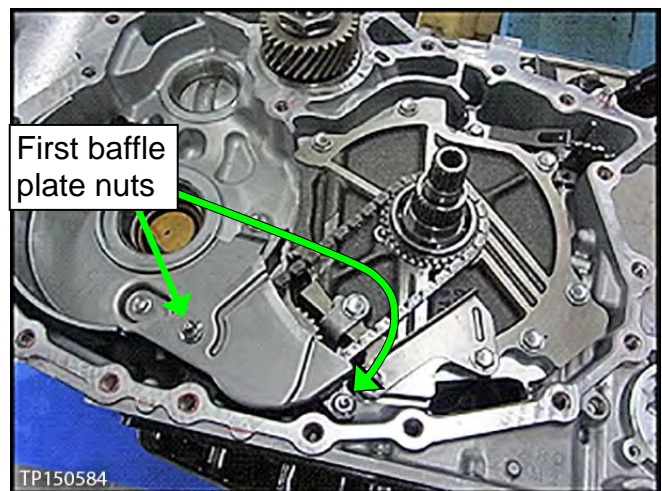

Figure 74
16. Install the first baffle plate with related nuts (see Figure 74).